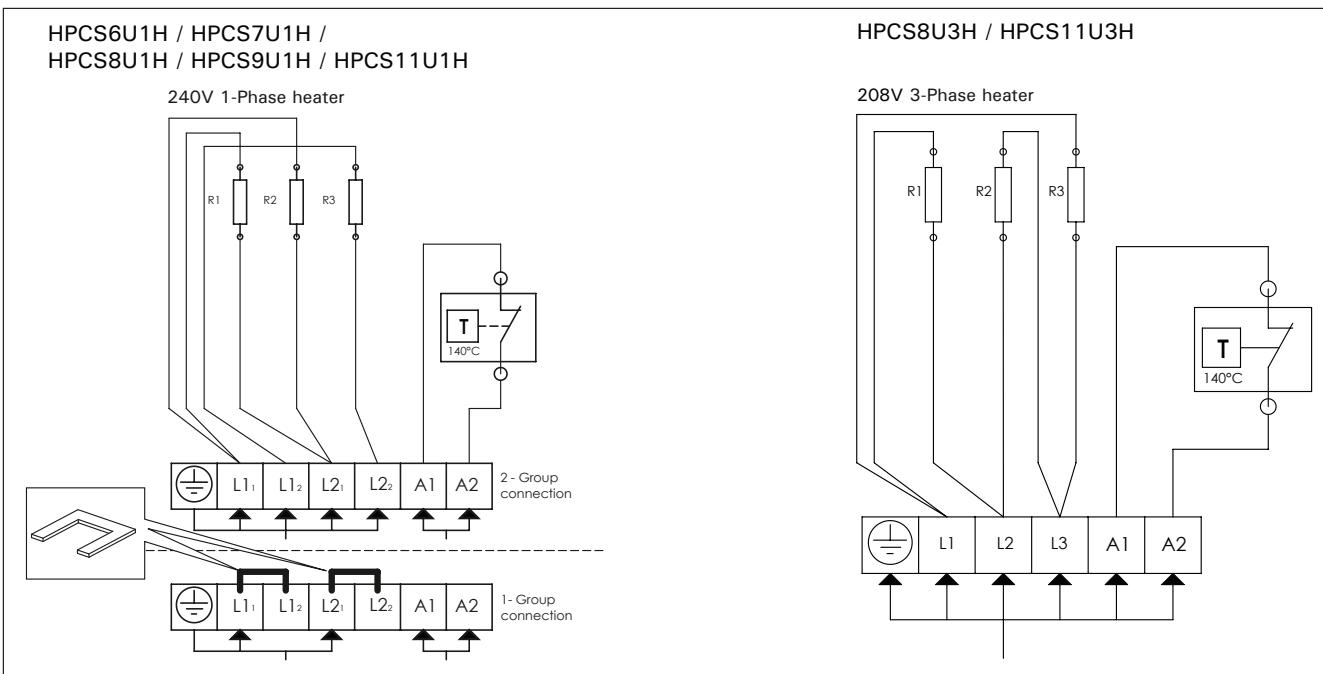

Figure 7. Electrical connections of the heater
2. See applicable wiring diagram for heater model (figure 7, see control unit manual for detailed instructions how to connect the heater and the control unit). Heater must be permanently installed by using seal tight conduit between the heater and the wall of the sauna room (pigtailed or plugs are not allowed in the sauna room). Wiring must be done by a licensed electrician, who must follow wiring diagram provided and adhere to local codes. Use proper AWG rated wire size and use copper wire suitable for 194 °F (90 °C) within sauna walls. Use grounding terminals provided in sauna heater and control unit to properly ground the equipment as per NEC and local codes.